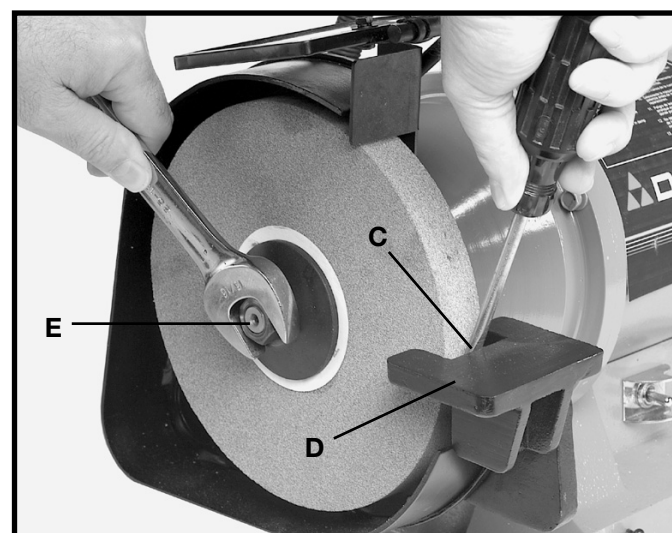

Fig. 21
2. To prevent shaft rotation, place a wedge between the grinding wheel (C) Fig. 21, and the tool rest (D). **NOTE:** Facing the front of the grinder: to replace the wheel on the left side of the grinder, turn the arbor nut (E) Fig. 21, clockwise to loosen; counterclockwise to tighten the arbor nut.
3. To replace the grinding wheel on the right, turn the arbor nut (E), counterclockwise to loosen; clockwise to tighten the arbor nut.